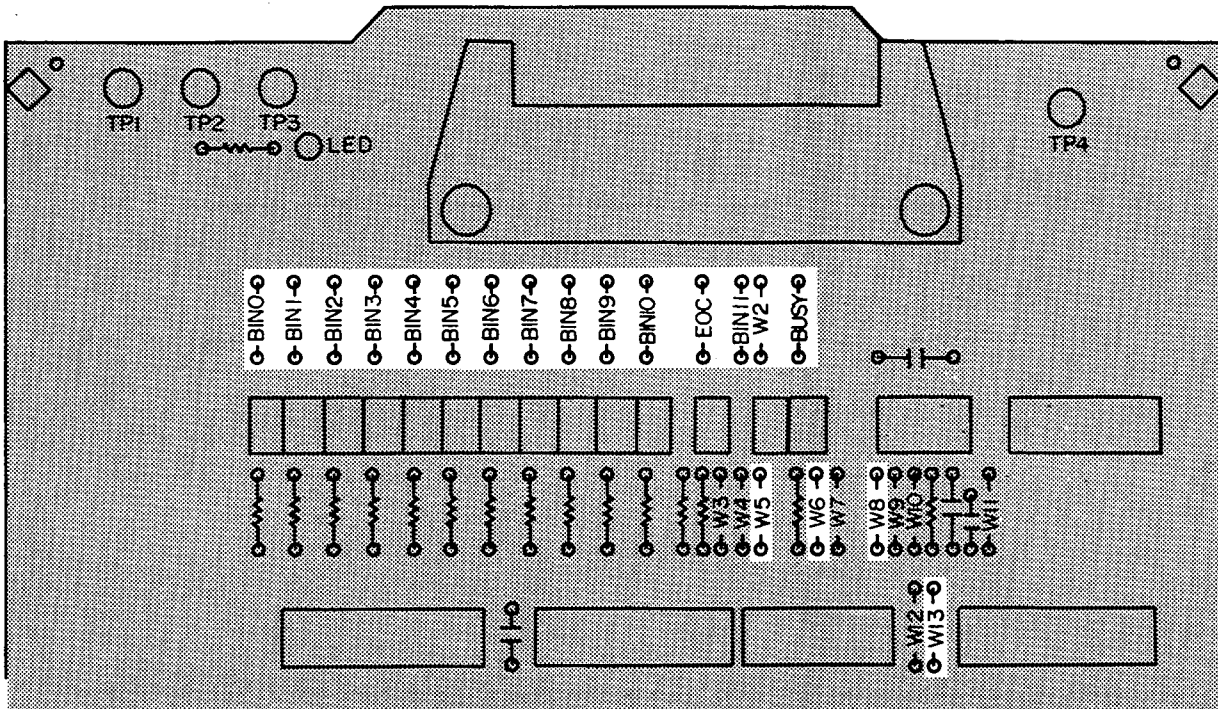

Figure 4-26. Palomar M16 Jumper and Pull-Up Resistor Locations
1. Configure the following interface signals by installing the jumpers as shown in Figure 4-26.
2. All I/O signals are TTL level so you must install all pull-up resistors to +5V (install pull-up resistors **R101 ~ R114**). Refer to Figure 4-26 for the pull-up resistor locations.
3. Bring +5V out through pins 12 and 17 of the handler interface rear panel connector (install a jumper at **W2** for the **COMMON** connection). Refer to Figure 4-26 for the locations of **W2**.